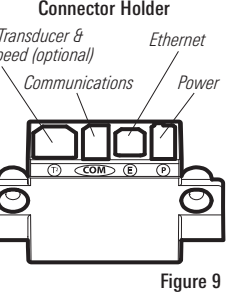

Figure 9
1. Insert the power and transducer cable connectors into the appropriate slots on the connector holder (Figure 9). The slots are keyed to prevent reversed installation, and insertion should be easy — do not force the connectors into the slots.